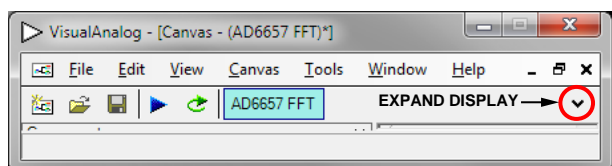
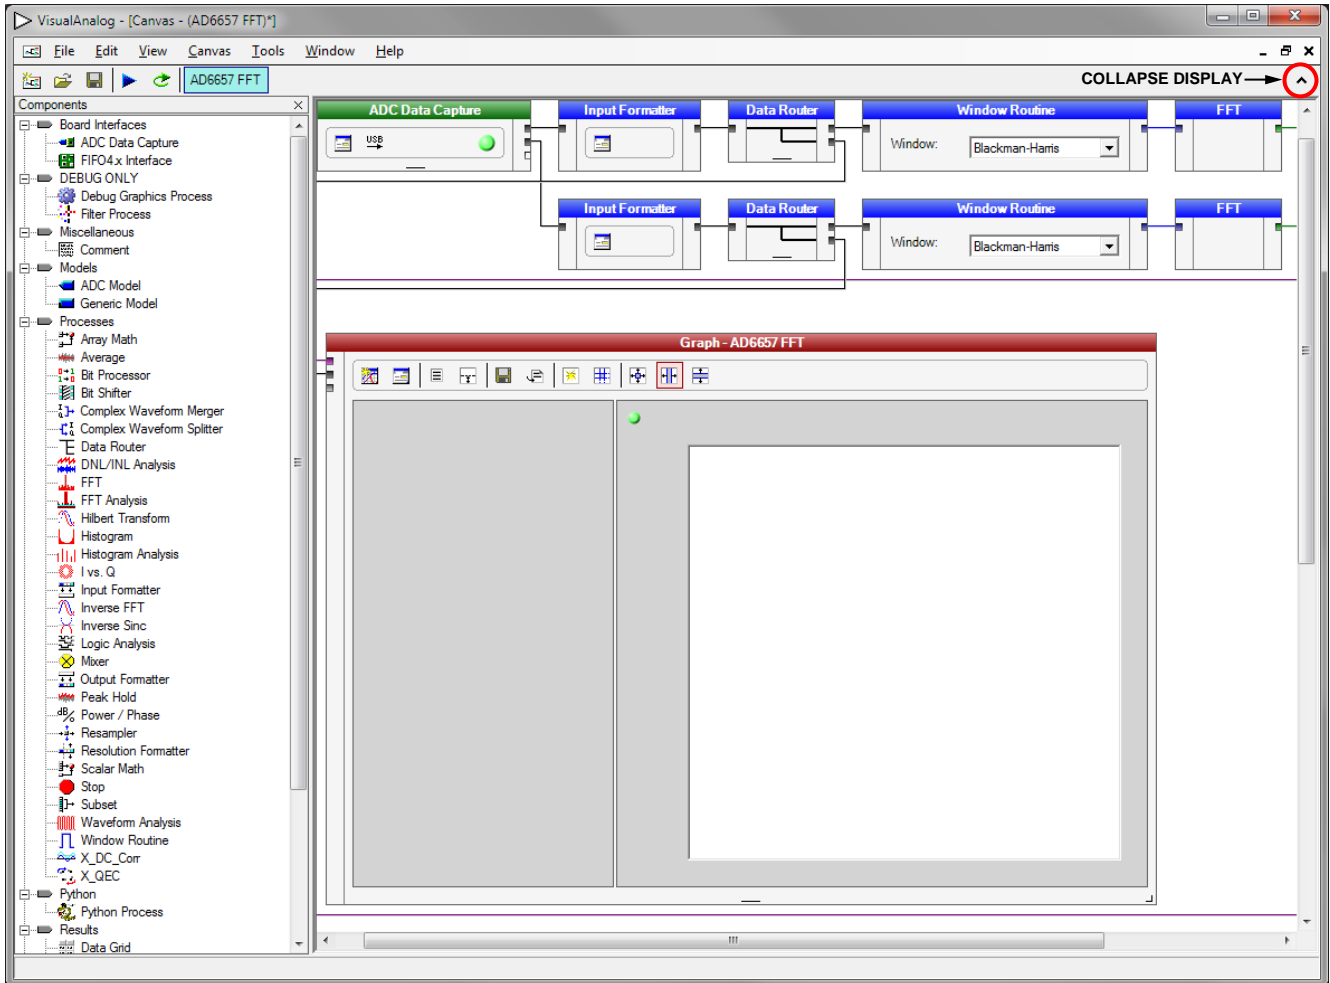

Figure 6. VisualAnalog – [Canvas – (AD6657 FFT)*] Window Toolbar, Collapsed Display
Figure 7. VisualAnalog – [Canvas – (AD6657 FFT)*], Main Window
3. To change features to settings other than the default settings, click the **Expand Display** button, located on the bottom right corner of the window shown in Figure 6 to see what is shown in Figure 7.
Detailed instructions for changing the features and capture settings can be found in the AN-905 Application Note, *VisualAnalog Converter Evaluation Tool Version 1.0 User Manual*. After the changes are made to the capture settings, click **Collapse Display** (see Figure 7).